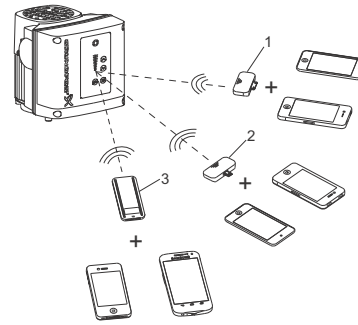

Fig. 12 Grundfos GO Remote
Grundfos GO Remote offers three different mobile interfaces (MI). See fig. 12.